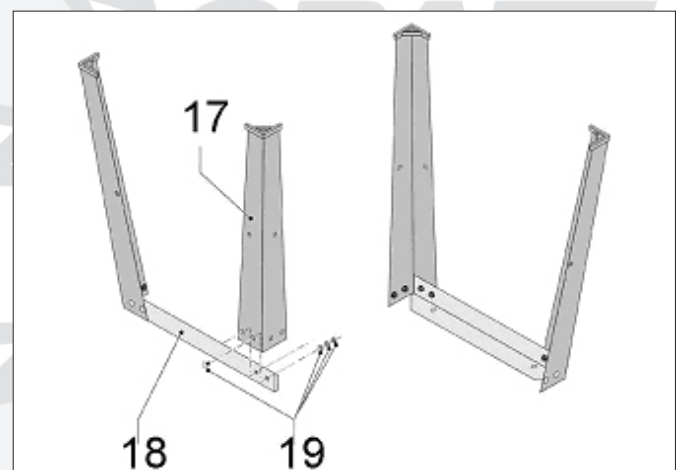

Figure 1
Hold one leg (17) with the foot pointing upwards and insert a short frame piece (18) into the leg's inner corner, so the screw holes are lined up. Screw the parts together using screws, washers and nuts (19), but do not tighten them too much. Repeat this procedure with the other legs as shown in figure 1, so you have pairs of legs each held together by a short frame piece.